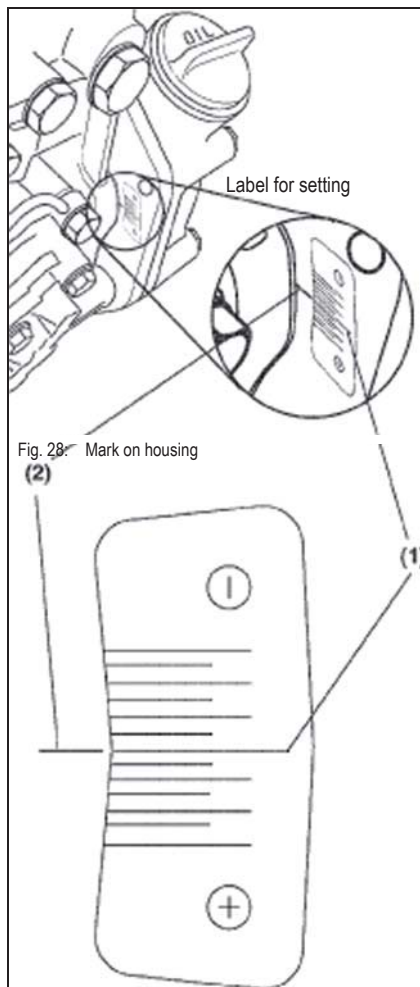

Fig. 28: Mark on housing
- Mark the initial position on the pump and wheel case housing before setting the fuel injection pump – see Fig. 28